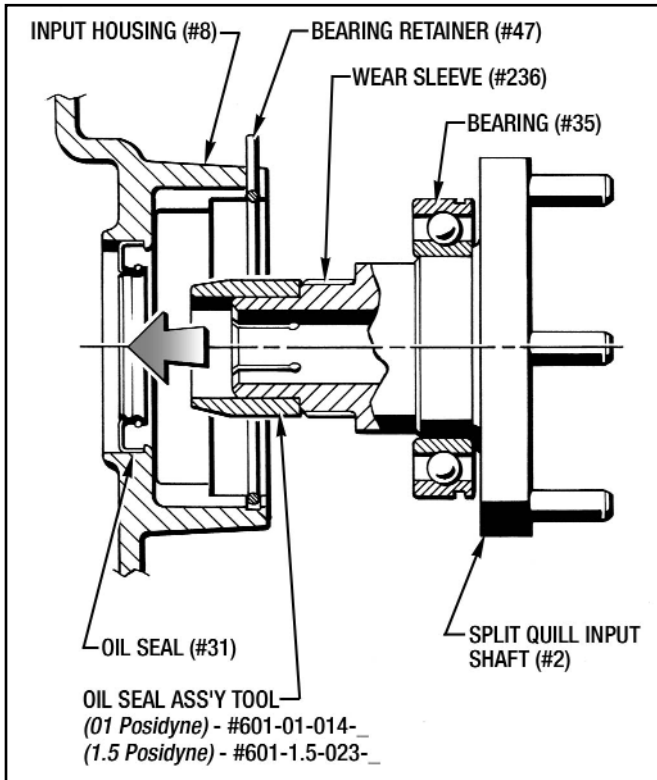

Figure 9.10 - Installing Input Shaft into Input Housing
3. Place the appropriate Oil Seal Assembly Tool on the Input Shaft so the Oil Seal (#31) will not get damaged as shown in Figure 9.10.